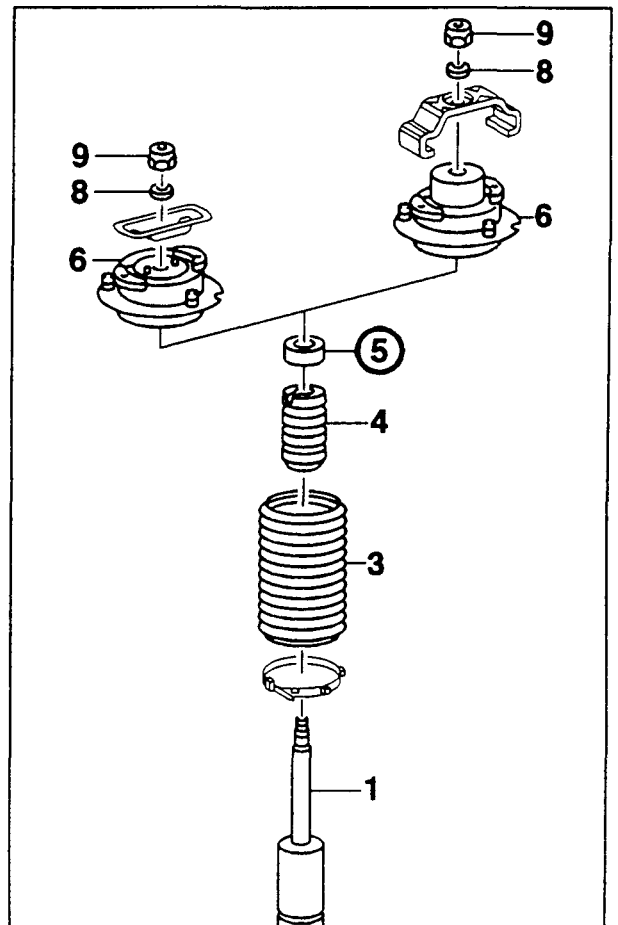

Figure 1
3. Loosen front axle damper strut at upper strut mounting (6), apply counter hold to piston rod (1, Figure 1).
5. Install spring travel limiting washer (5) onto piston rod (1) over strut bumper (4, Figure 1).
Use new self-locking nuts (9) and washers (8, Figure 1) on upper strut mounting.